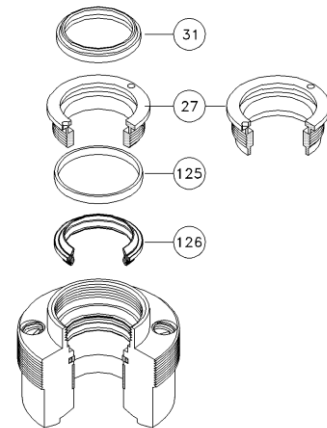

Figure 6-30; Mounting rod oil seal
Before mounting, grease must be applied to the rod oil seal (126). Then the rod oil seal (the spring washer at the bottom) is placed in the guide and tightened with the rod oil seal nut (27). In older types a separate distance washer (125) is being used. Nowadays the distance washer has been integrated in the rod oil seal nut (27) (Figure 6-30).